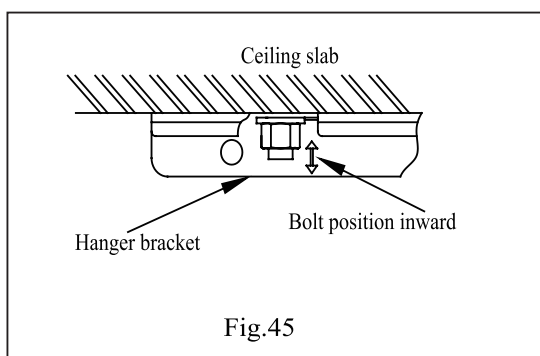

Fig.45
- Make sure that extended suspension bolt from the ceiling stays inside the arrowed position. Readjust the hanger bracket when it is outside the arrowed position. (See Fig.45)